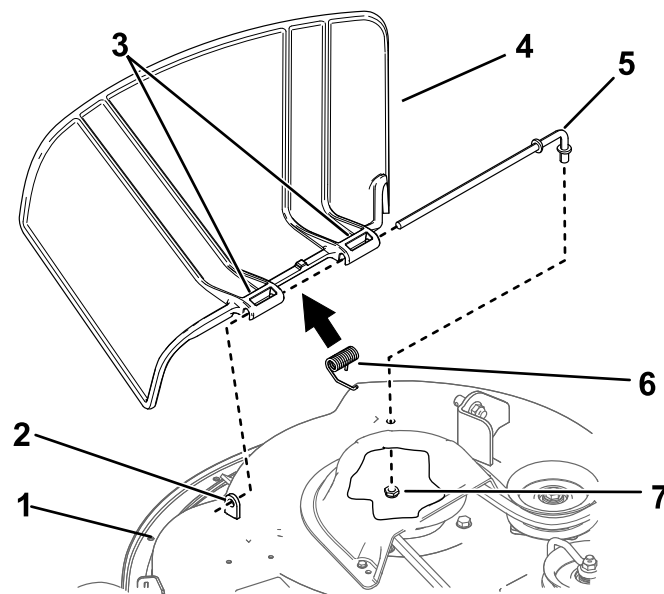

Figure 69
1. Remove the nut (3/8 inch) from the rod under the mower (Figure 69).
2. Slide the rod out of the short stand-off, spring, and grass deflector (Figure 69).
4. Install the new grass deflector (Figure 69).
7. Slide the rod through the second grass-deflector pivot (Figure 69).
9. Secure the rear end of the rod into the mower with a nut (3/8 inch) as shown in Figure 69.